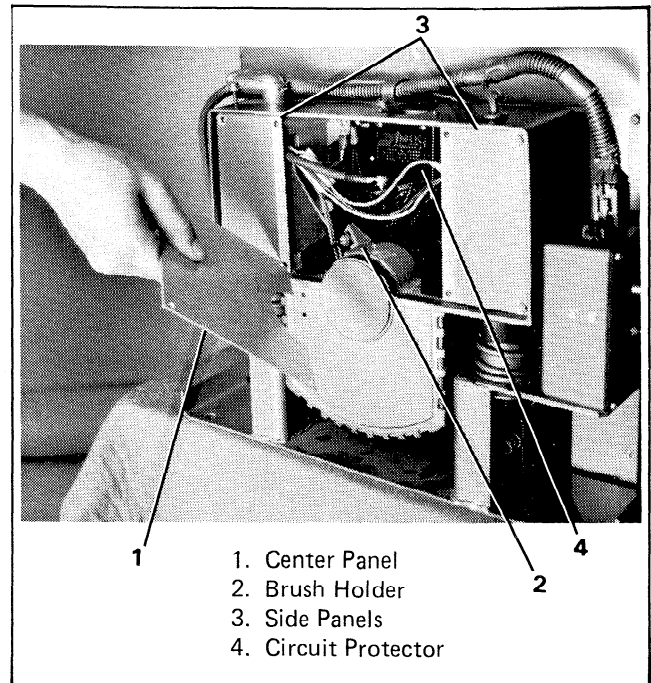

Figure 6-5. Center Panel Removal (4.5, 5.5, 7KW)
3. Remove the center panel (Figure 6-5 or 6-6). The safeguard breaker can be removed.
4. Remove the side panels (Figure 6-5) (4.5, 5.5 7KW).